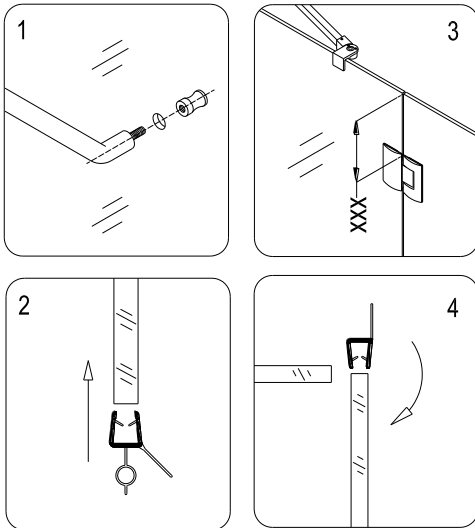

fig. 7
8. Mount the **Handle (05)** onto the door. Measure the distance between the top edge of the glass door and upper edge of the top hinge. Cut the piece off the **Side strip (09)** with a knife in the length according to your measurement. Repeat it to prepare the short strip for the lower section of the glass door. Then measure the distance between the bottom edge of the top hinge and the upper edge of the bottom hinge and cut the rest of the strip to size. Open the door to its full section and push all the strip lengths onto the vertical edge of the glass door. Push the **Bottom anti-water strip (10)** on the bottom edge of the glass door. See fig. 7 for details.